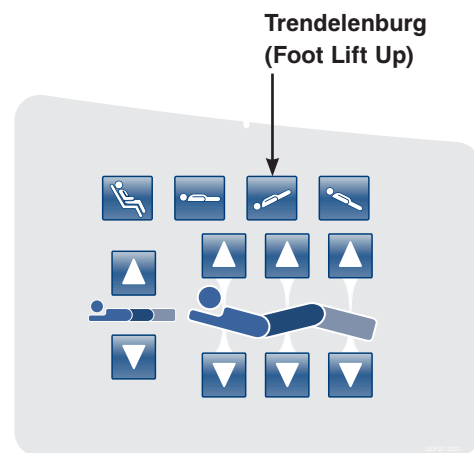

Figure 14: Head Siderail Control Panel
- Place the bed at +12 degrees Trendelenburg by pressing the **Trendelenburg (Foot Lift Up)** button as shown in Figure 14. Verify +12 degrees +/- 0.1 with the inclinometer you previously placed on the litter frame in step 11.